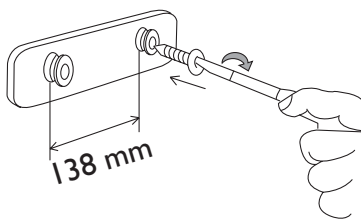

fig.5
4. Fix the support by means of the 2 screws provided. (fig.5).